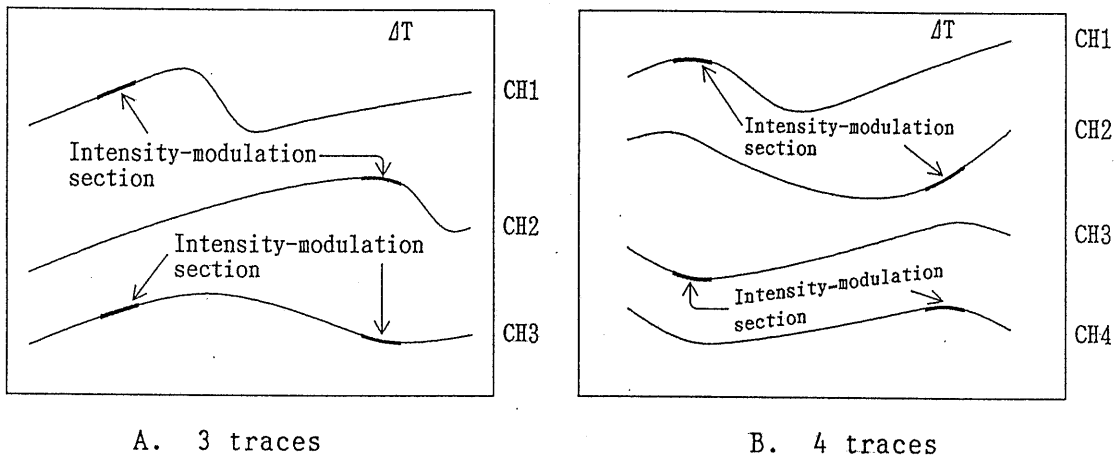

Figure 4-8. Multi-trace Delayed Sweeps
When in the 3-trace mode, one intensity-modulated section is displayed on each of the waveforms of the two leftmost channels as indicated at the VERT MODE ③ and two intensity-modulated sections are displayed on the waveform of the remaining channel. For example, when in a 3-trace mode with CH1, CH2 and CH3, one intensity-modulated section is displayed on each of the CH1 and CH2 waveforms and two intensity-modulated sections are displayed on the CH3 waveform. (See Figure 4-8 A.)
When in a 4-trace mode, one intensity-modulated section is displayed on each of the channel waveforms. (See Figure 4-8 B.)